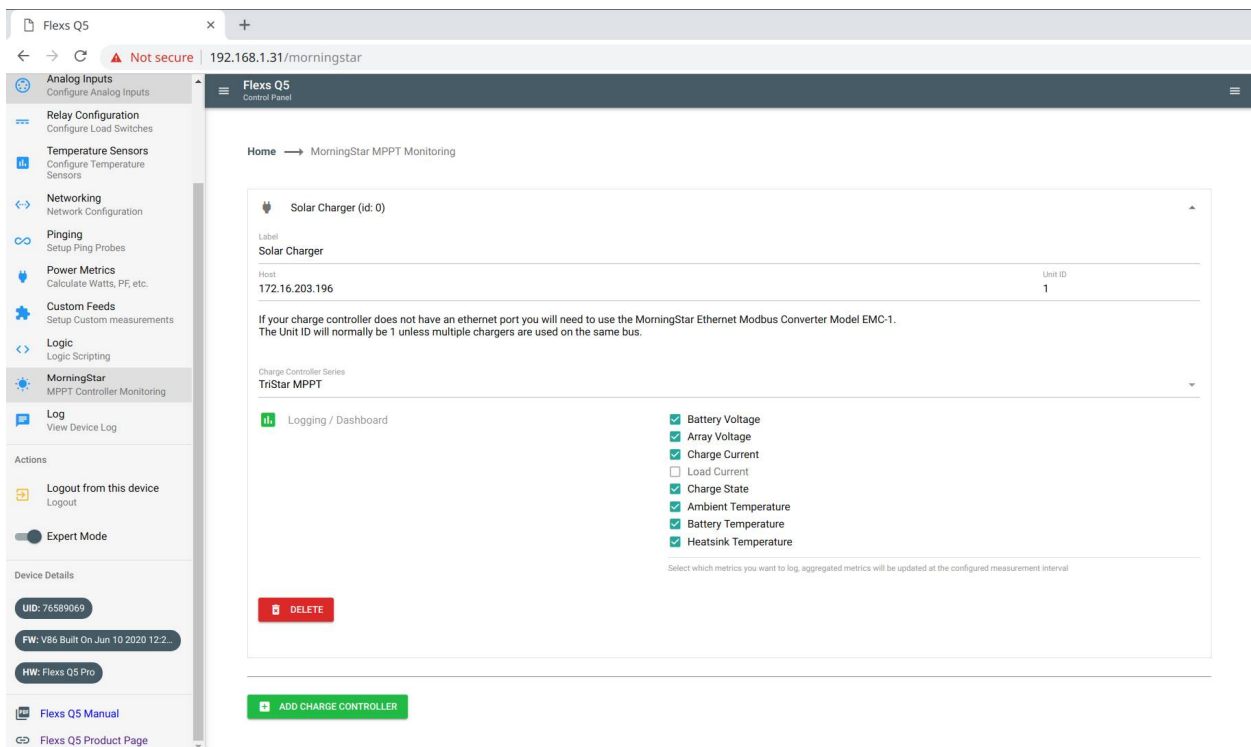

Figure 4
2. Add your device from the Morningstar charge controllers tab (*Figure 4*)